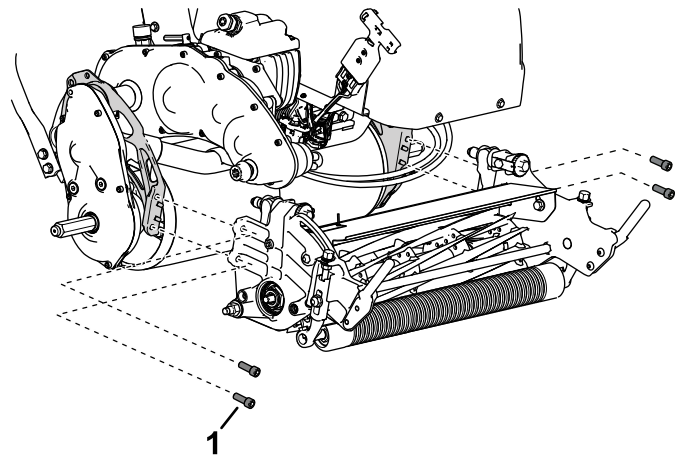

Figure 37
4. Remove the socket-head screws that secure the cutting unit to the frame (Figure 37).